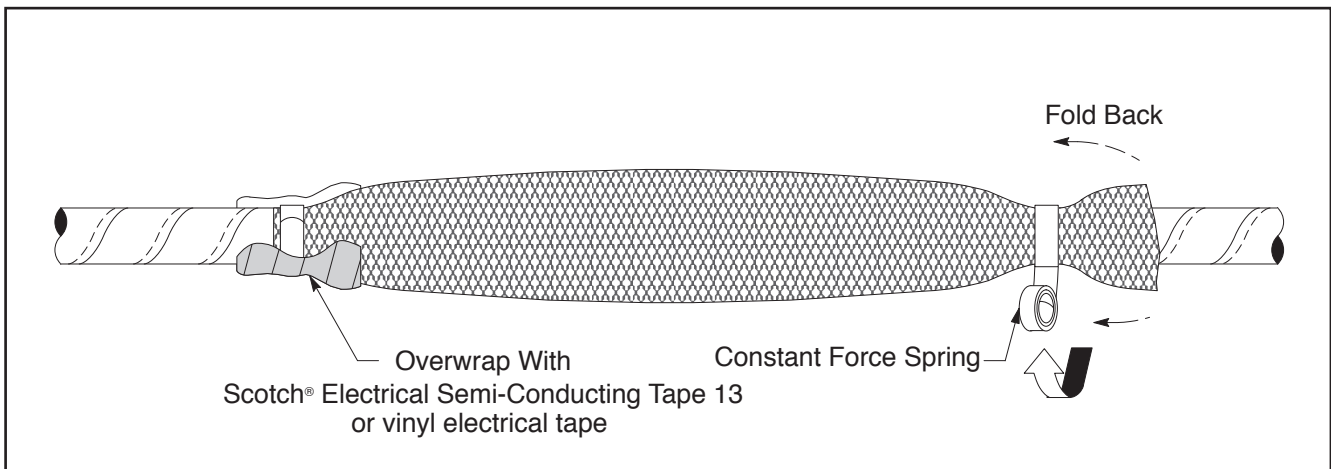

**Figure 16**
- d. Install a constant force spring at one end; position spring over cable metallic shield. With thumb, hold coil in place over sleeve (the rolled up coil should be facing away from you). Pull coil around cable for one wrap only (*Figure 16*).